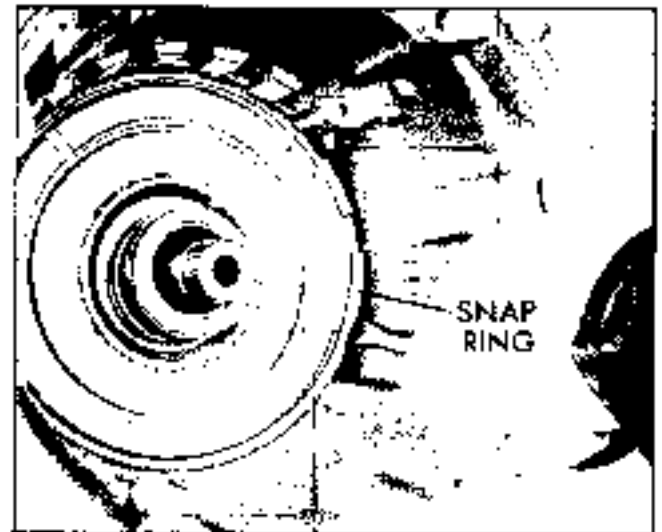

Fig. 7E-46 Removing Center Support to Case Snap Ring
13. Remove center support to case retaining snap ring (Fig. 7E-46).